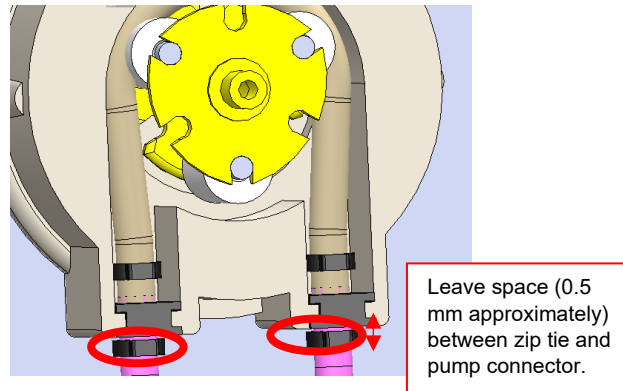

Figure 7
6. Reconnect the tubing underneath the Wash Pump. Install new zip-ties and tighten around barb connector (Provided in the Spare part pack, 222-13-004). Cut the extra zip-tie using wire cutting pliers. See Figure 7.